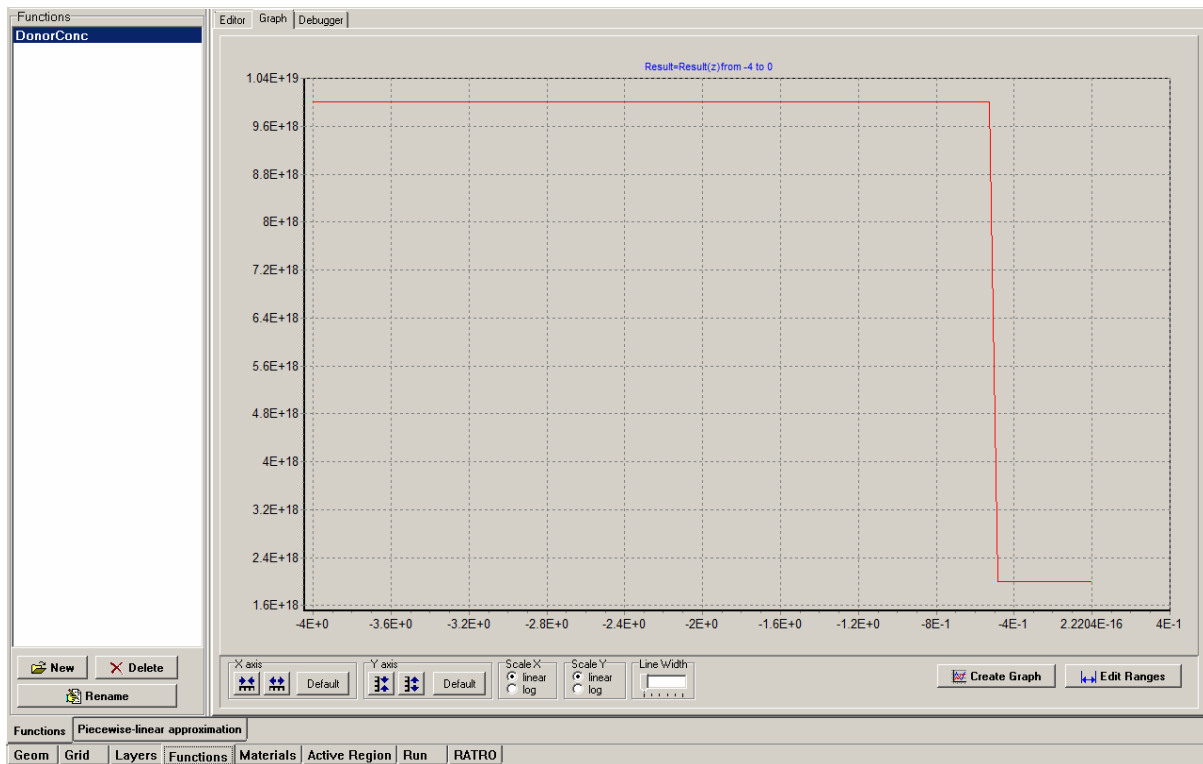

Fig. 41
- Tab **Graph** provides graphical visualization of the specified function. It contains the following items (see Fig. 41):